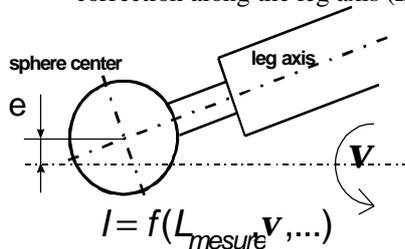

Figure 4 :
- it is mandatory that the leg axis crosses the ball centre. If it is not the case (it is never the case!), then it shall be impossible to implement angle correction along the leg axis (**figure 4**).